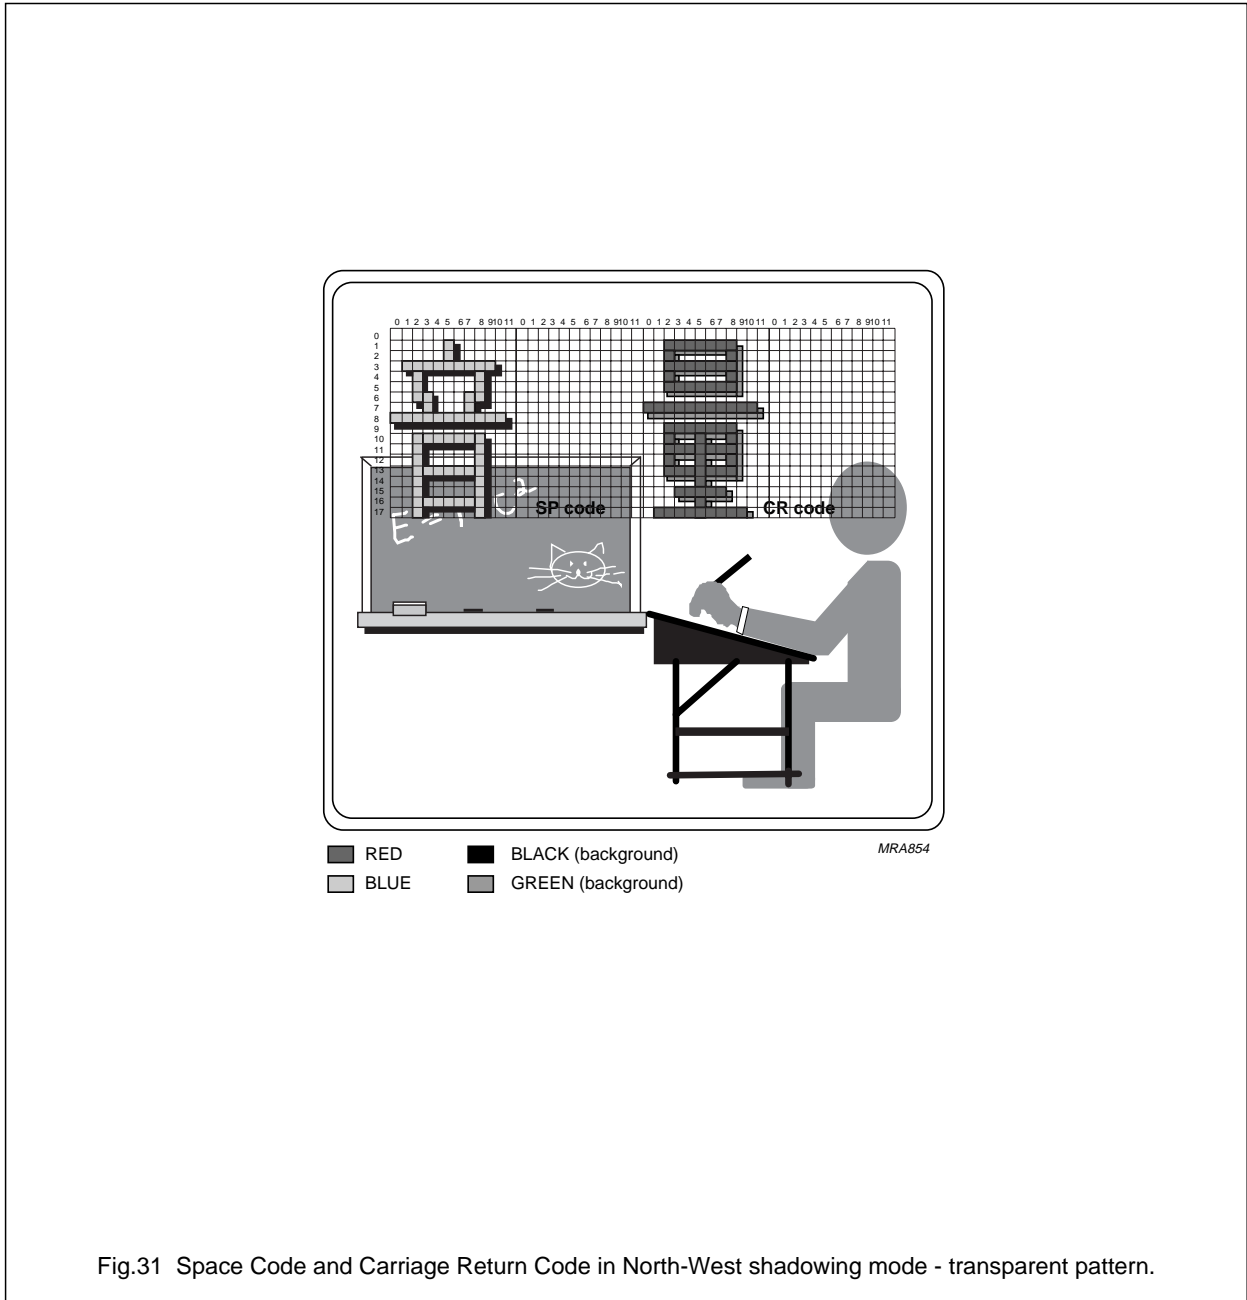

Fig.31 Space Code and Carriage Return Code in North-West shadowing mode - transparent pattern.
- Mode 1: the North-West shadowing mode. Both codes are displayed in the same manner as for Mode 0. This is shown in Fig.31.